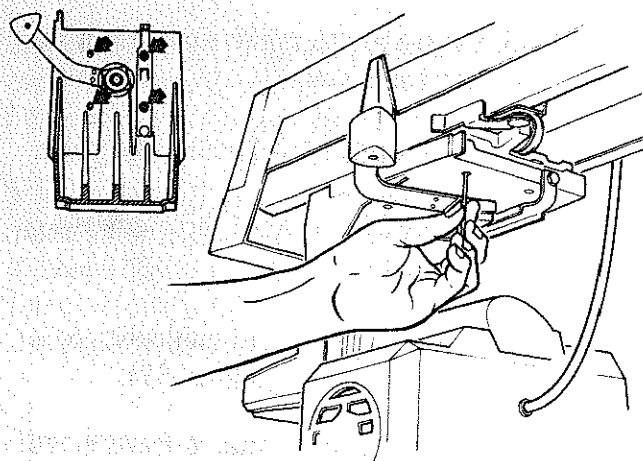

Fig. 62
7. Loosen the four screws under the *yoke* using a 3/16 inch hex-L wrench and pliers if necessary. (Figure 62)